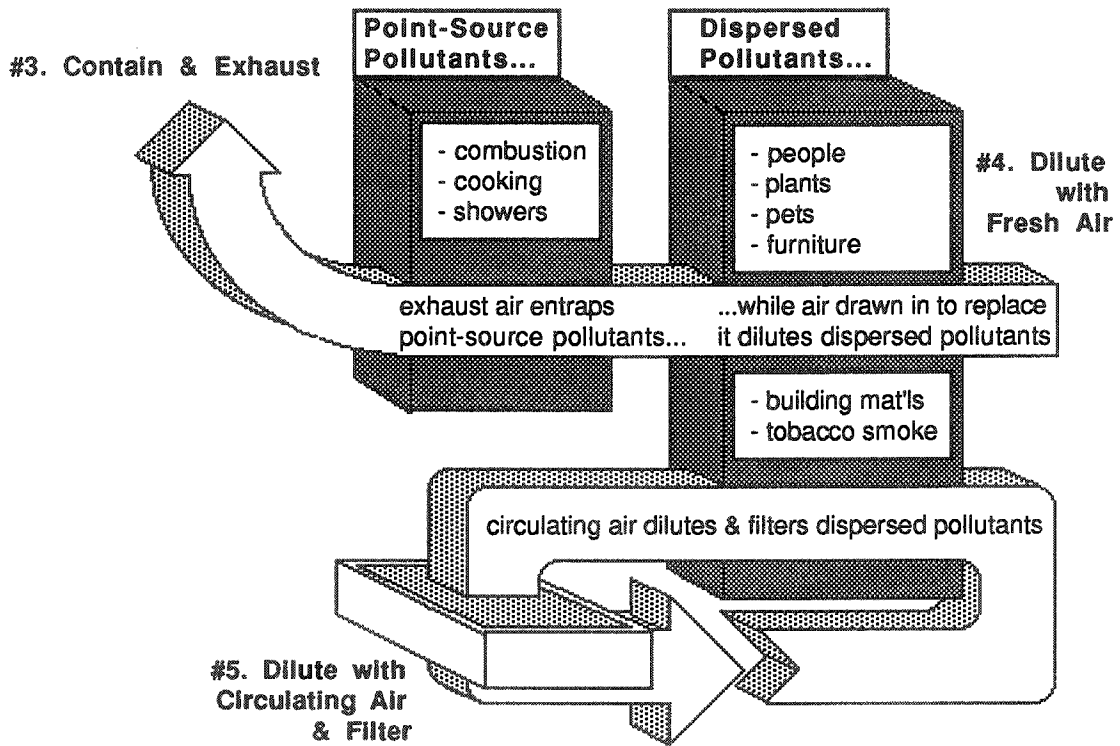

Figure 1. Design Theory
1. a *Design Theory* which uses source control and ventilation to maximum advantage in order to hold down energy costs. (Figure 1)